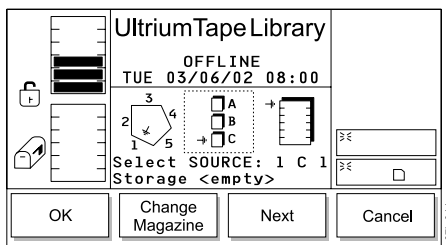

Figure 140. Change Magazine Dialog
- Press the button below the **Change Column** softkey until the arrow in the left icon points to the column that you want. Press the button below the **Next** softkey. The Change Magazine Dialog displays (see Figure 140).